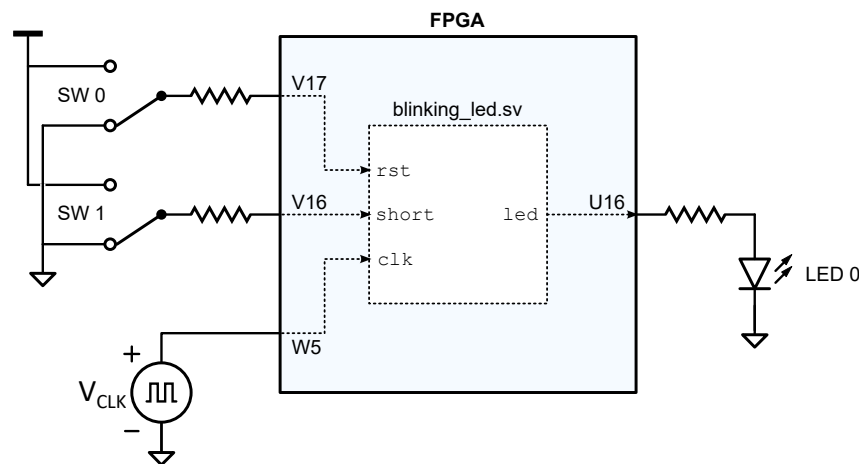

Figure C.3: Diagram of the blinking LED circuit.
The blinking LED circuit that you will make in this tutorial is shown in Fig. C.3. Normally, the LED blinks at a frequency of 1 Hz with a 50% duty cycle.
5. Next, add modified copies of the 2 `set_property` lines above to connect port `rst` to pin V17, port `short` to pin V16 and port `led` to pin U16 as shown in Fig. C.3.